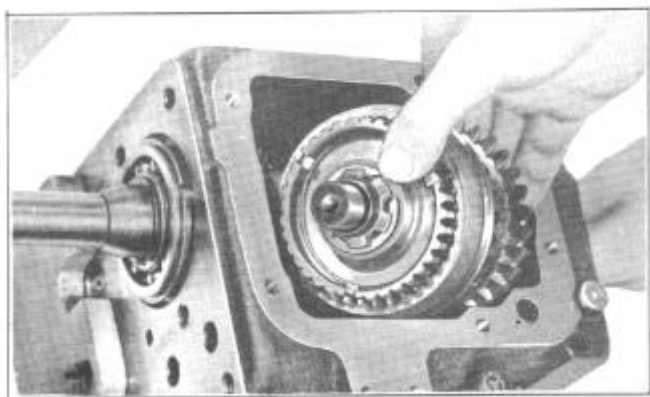

FIGURE 8
16. Pull mainshaft rearward and main drive gear forward until mainshaft is fully withdrawn from needle roller pilot bearing in rear end of main drive gear. Move synchronizer shift sleeve into 2nd speed position and low reverse sliding gear as far rearward as it will go, then lift mainshaft assembly out through cover opening in case, Figure 8.